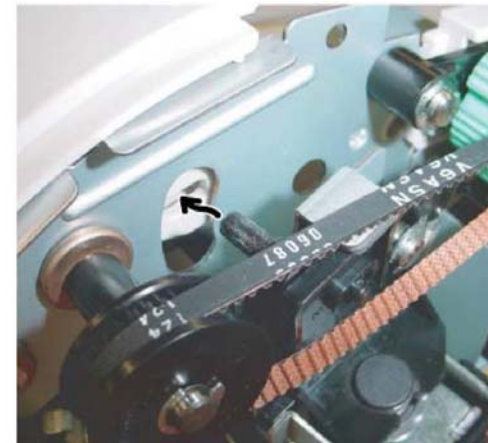

Figure 5 Sub paddle assembly installation
2. Install the sub paddle assembly as shown in **Figure 5**.